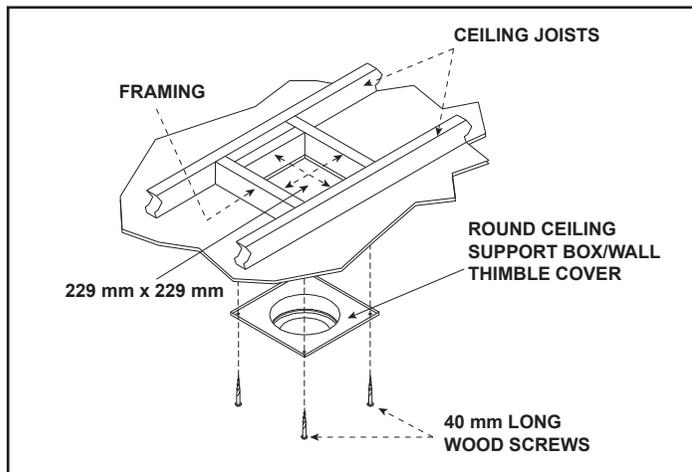
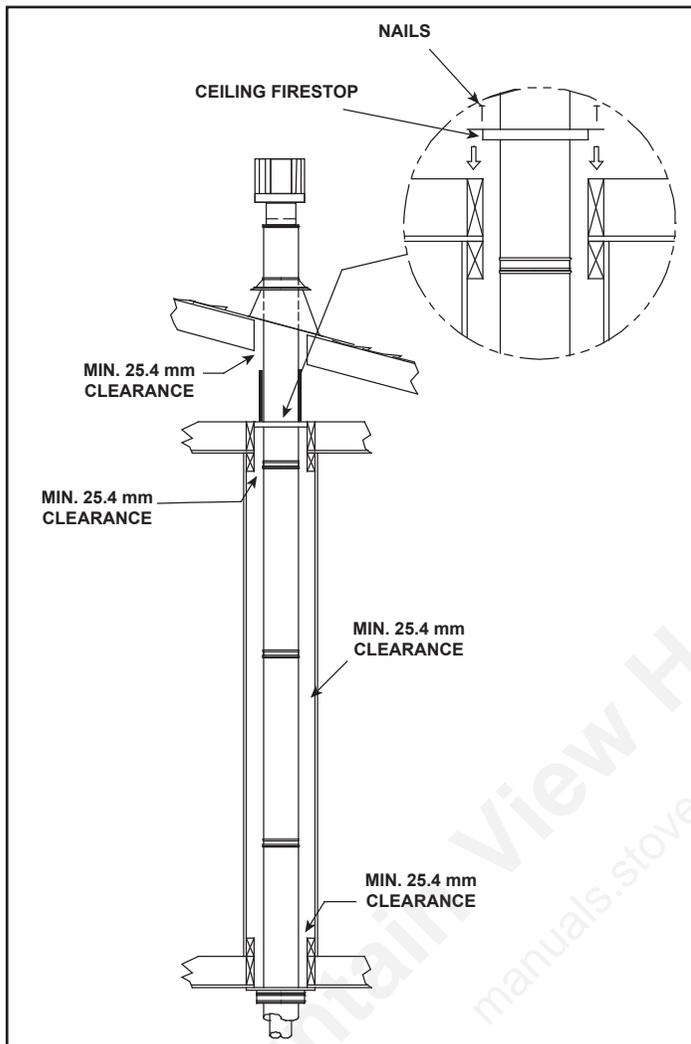

Figure 7.22
Figure 7.25
Step 3 - To install the round support box/wall thimble cover in a flat ceiling, cut a 229 mm square hole in the ceiling, centered on the hole drilled in Step 2. Frame the hole as shown in **Figure 7.22**.
Note: For multi-story vertical installations, a ceiling firestop is required at the second floor, and any subsequent floors (Figure 7.25). The opening should be framed to 9 in. x 9 in. (229 mm x 229 mm) inside dimensions, in the same manner as shown in Figure 7.22.